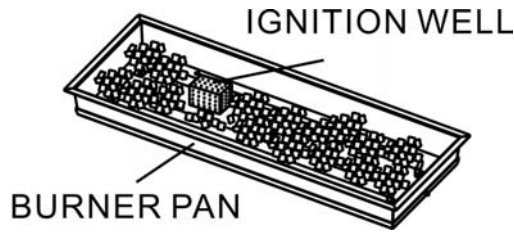

Figure 7
8. Pour ALL of the provided media (fire ice) into the burner pan. Burner MUST be completely covered to ensure the appliance functions properly and safely. Remove any fire ice on top of the ignition well. See Figure 7.